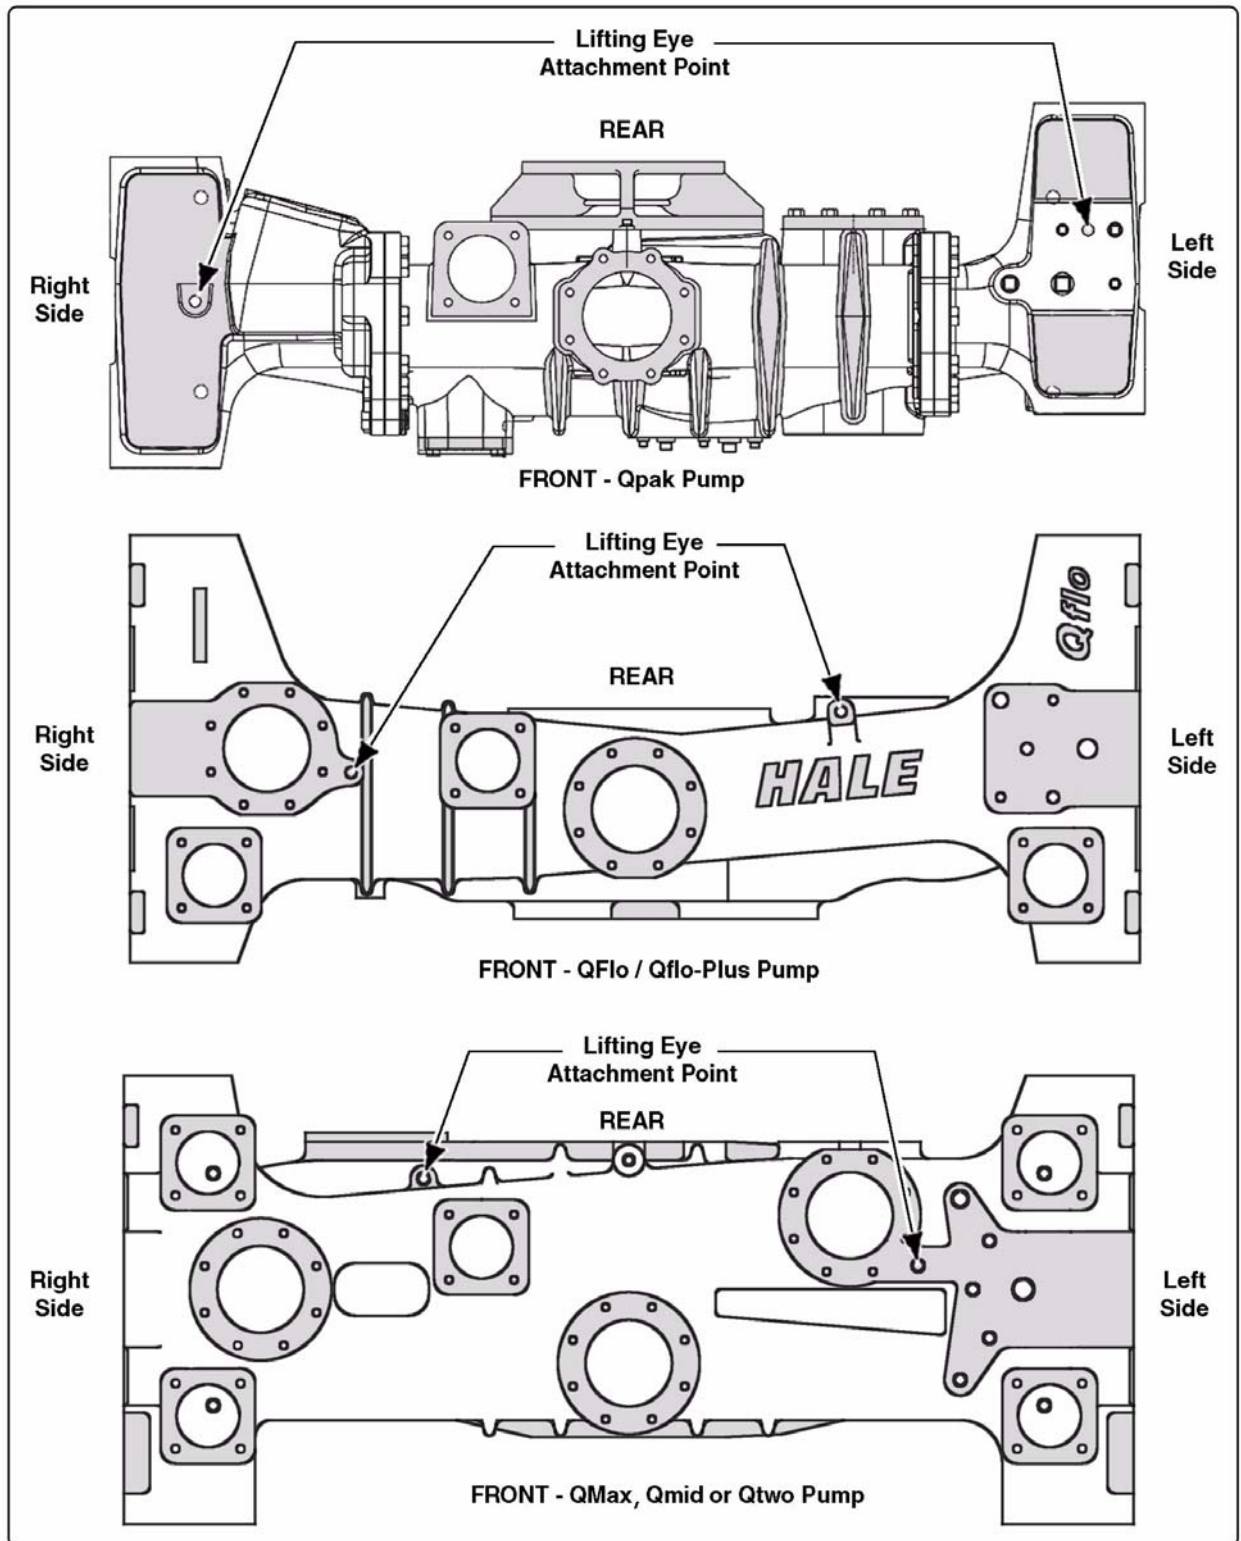

Figure 7-2: Lifting Eyebolt Attachment Layout
2. Install 5/8”-11 UNC eyebolts into the lifting holes on the midship pump body. (See Figure 7-2: “Lifting Eyebolt Attachment Layout,” on page 109.)
2. Attach proper supporting devices and stabilize the assembly for transport to the apparatus. (See Figure 7-2: “Lifting Eyebolt Attachment Layout,” on page 109.)